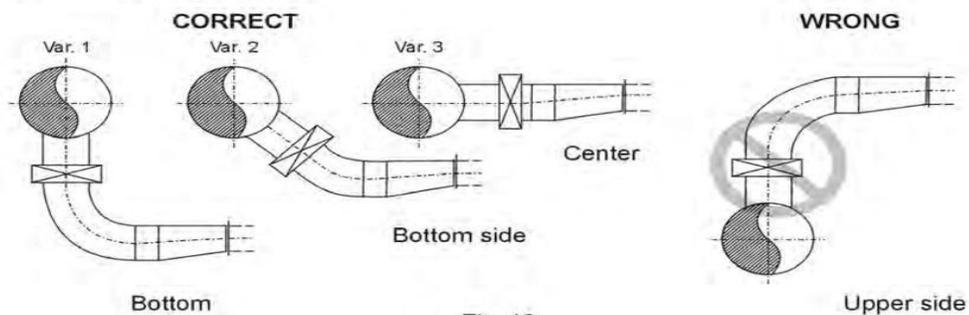

Fig. 16
- If the Pump inlet branches off from a main supply line, the connection point to the main pipe should be below the centre of the main pipe.(Fig.16)